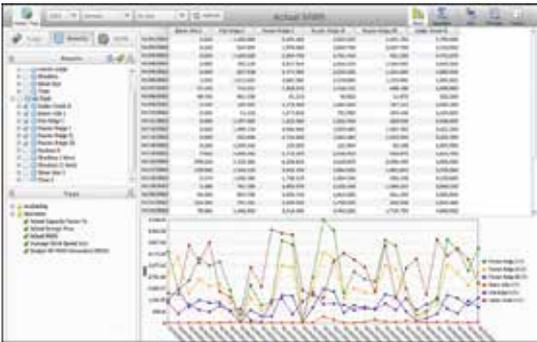

Figure 13: Screenshot—Data Mining and Analysis.
- **Data Mining & Analysis**—The software should allow for ad hoc data mining and querying of the data, making selections by asset, event type, tag status, or tag information. Results should be presentable in tabular form or in charts (Figure 13), and the user should be able to perform "what if" analyses or causal analyses on the resultant data.